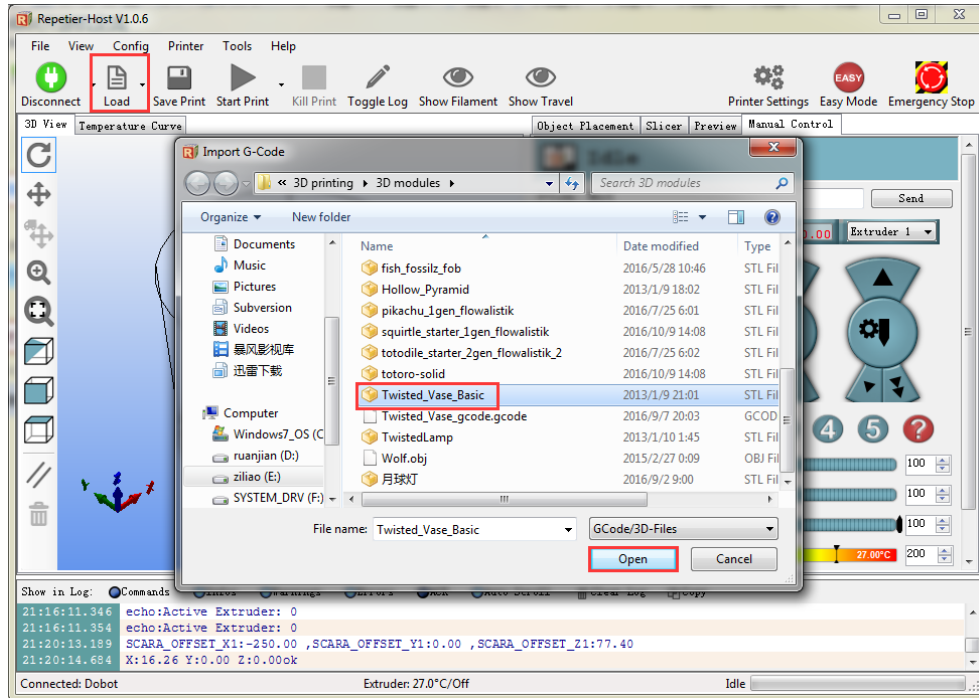

Figure 5.123 Import 3D printing Model
Step 5 Click **Load** to import the prepared 3D printing model, as shown in Figure 5.123. You can also load 3D printing model which are DobotStudio, the loading path is